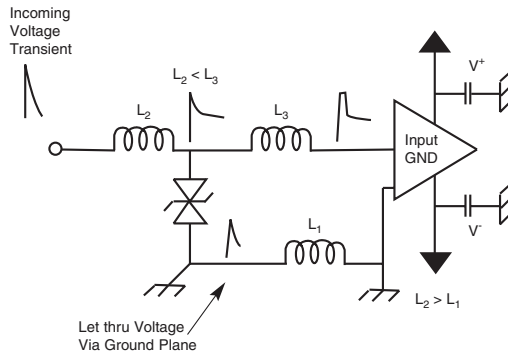
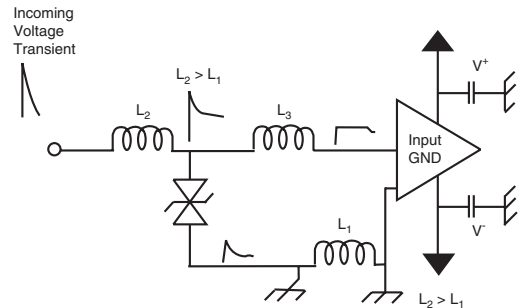

Figure 1.
Figure 2.
The suppressor should be as physically close to the vulnerable component’s ground return as possible (see Figure 1). The lower the parasitic inductance between the ground plane of the component to be protected and the TVS, the more effective the suppressor will be.
**For both Figure 1 and Figure 2:**